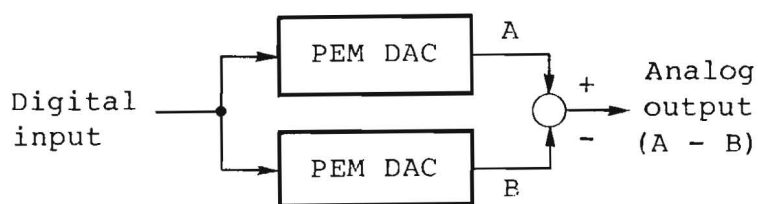

Fig. 6 Basic construction of a PEM DA converter
- PEM DA conversion system (Fig. 6)